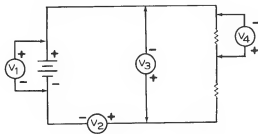

Figure 1-99
45. Which voltmeter in the circuit of Figure 1-99 is connected correctly?